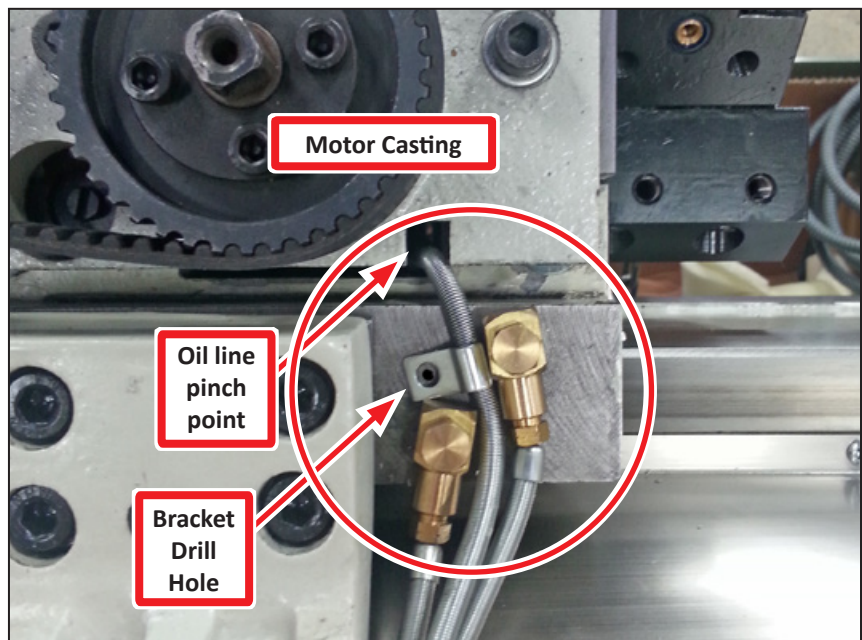

Figure 51
8. Slowly move the X-axis down, making sure to not pinch the oil line (see **Figure 51**).
9. Attach the oil line bracket (set aside earlier) to the oil line and position as shown in **Figure 51**.
11. Mark a drill hole for the bracket as shown in **Figure 51**.